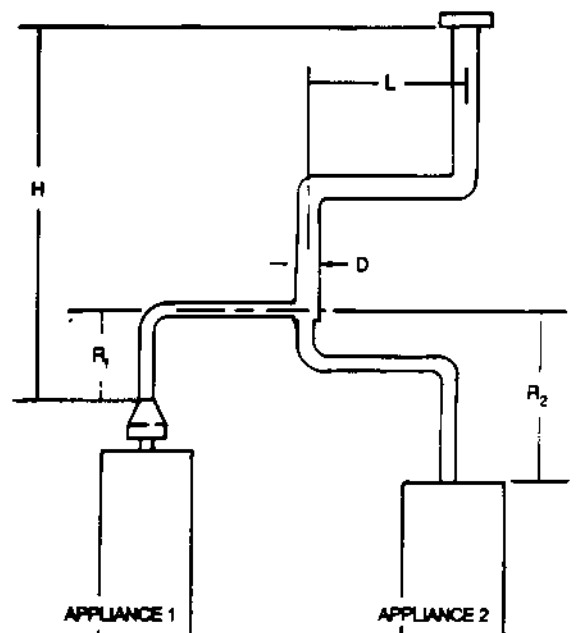

FIGURE 8
- 5) If the common vertical vent is offset as shown in Figure 8, the maximum common vent capacity listed in the common venting tables should be reduced by 20% (0.80 x maximum common vent capacity).